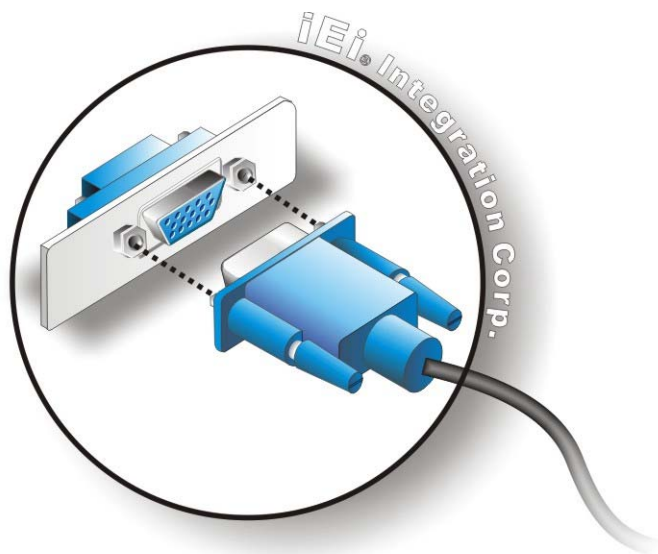

Figure 4-17: VGA Connector
- Step 3:** **Insert the VGA connector** Once the connectors are properly aligned with the insert the male connector from the VGA screen into the female connector on the PCIE-H610. See **Figure 4-17**.